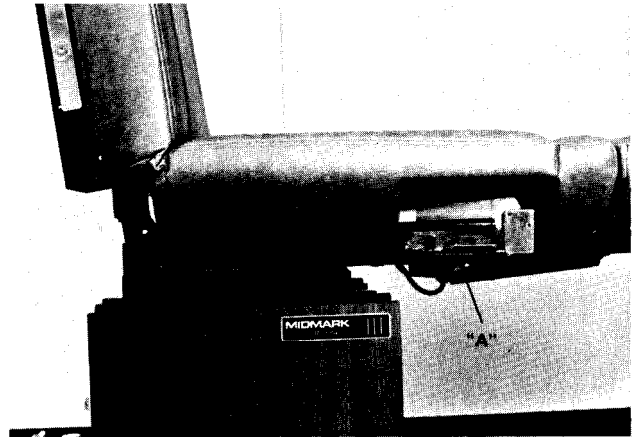

Fig. 39
5. With two assistants lifting on the table top at points A, Fig. 39, one assistant on each side of the table:
- a. Remove the (3) hose fittings from the defective cylinder using 7/16" and 9/16" wrenches.